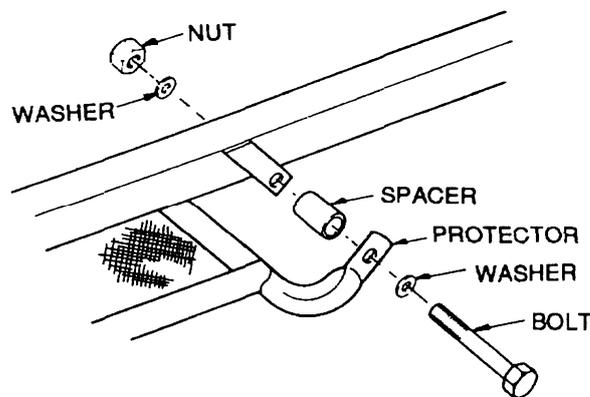

Figure 173 Left-hand Rear Protection Plate Mounting
- c. Remove the left-hand rear protector-to-chassis mounting bolt, washers, nut and spacer (Figure 173).